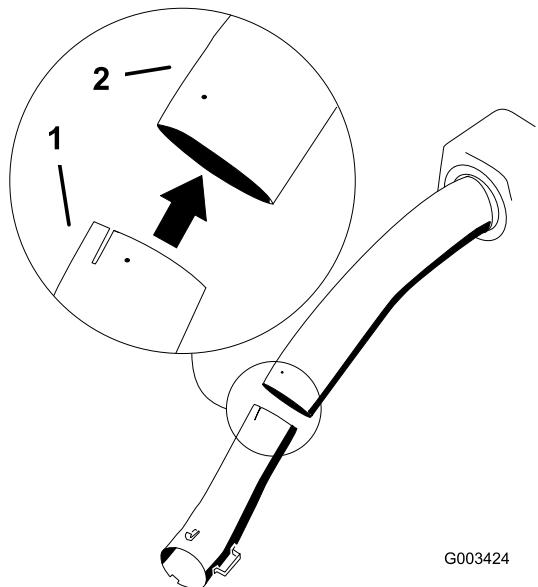

Figure 24
7. Install the lower tube into the upper tube (Figure 24).